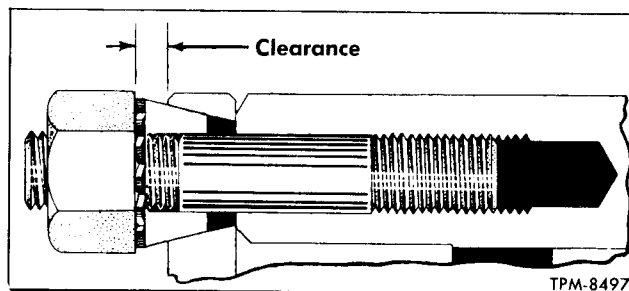

Figure 3—Clearance Between Nut and Flange
5. Observe that clearance exists between nut and flange (fig. 3). If no clearance exists, this indicates excessive wear at studs, dowels, or flange holes. Replace worn parts if necessary.